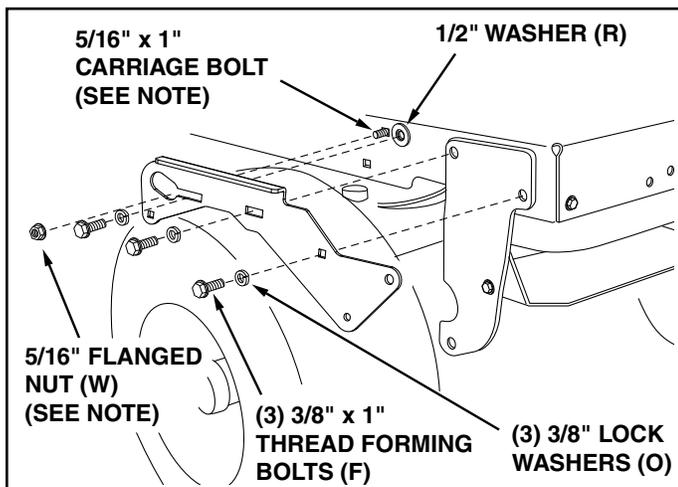

FIGURE 21 RIGHT SIDE VIEW
STEP 22: (SEE FIGURE 21)
- Fasten the R.H. Side Plate (21) (bend facing out) to the front three holes shown in the tractor frame using three 3/8" x 1" thread forming bolts (F), three 3/8" lock washers (O), and one 1/2" washer (R). Place the washer on the third bolt as a shim between the side plate and the frame. Tighten all bolts. Repeat for the L.H. side.